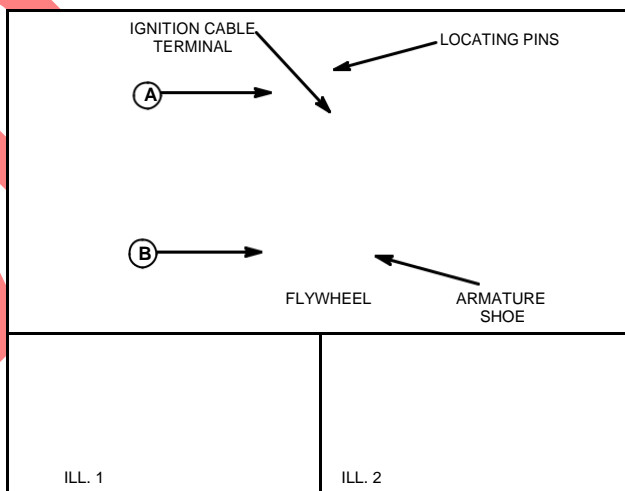

Fig. 27 – REPLACING ARMATURE
Remove armature wire from contact bracket. Remove the ignition cable from the terminal on the coil. Unscrew four armature mounting screws. Hold magneto plate and pry armature loose with a screwdriver. To test coil be sure to fasten both secondary ground loops (A and B) to the core, Fig. 27. The secondary of this coil is split and the ground wires are not connected inside the coil. Failure to fasten either or both of these ground wires will result in a weak or dead coil. Mount armature on the two (2) locating pins as shown in Fig. 27. Fasten armature to plate with four (4) mounting screws – with two (2) screws next to coil end inserted in loop A and B. Fasten ignition cable to terminal of coil. Dirt under the stop button spring in blower housing, or on air guide in some models, will cause a short. Check and clean.
**NOTE:** EARLY MODEL FH engines were not equipped with steel locking plates under mounting screws and lockwashers of magne-to plates. This caused screws and lockwash-ers to become loose and damage the magne-to. On magneto plates with reinforcing rib as shown in Fig. 27, Ill. 1, use locking plate, Part #69711 (NLA). On plates without reinforcing rib, use Part #69712 (NLA), Fig. 27, Ill. 2.